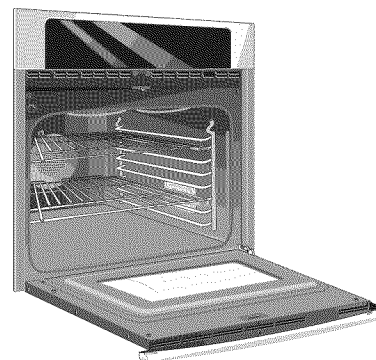

Figure 40: Door at horizontal position
3. Fully open the oven door, horizontal with floor (Figure 40).